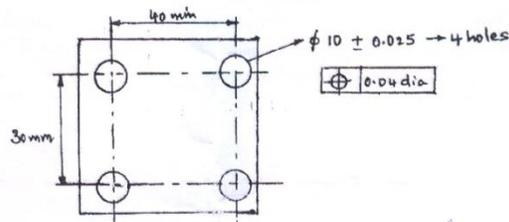

Fig.Q7(b)
b. Design the gage for the part shown in Fig.Q7(b) as per the fixed fastener true position theory at MMC.